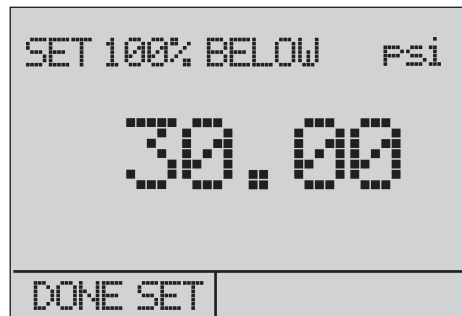

Figure 32. Setting the Upper Limit
6. Use the arrow keys to set the upper limit of the measurement range. Select **DONE SET** when finished. See Figure 32.